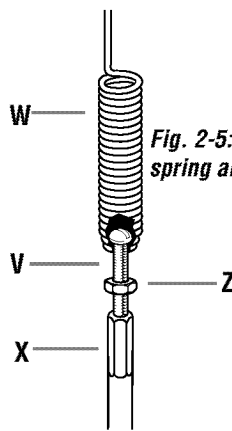
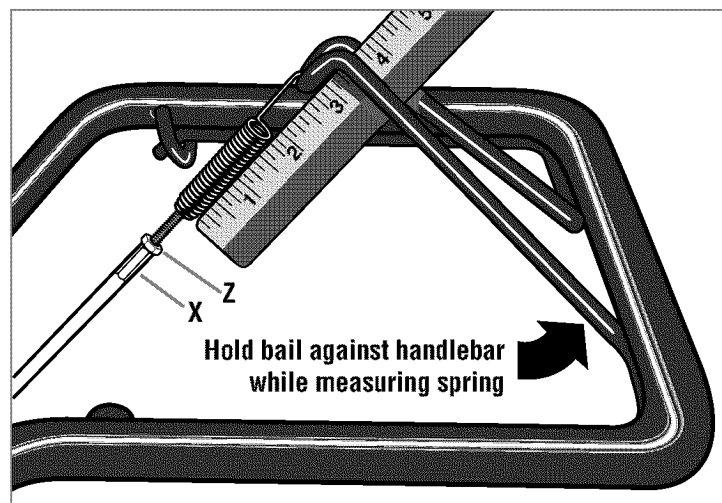

Fig. 2-5: Assemble spring and adjuster.
Fig. 2-7: Measure cable spring.
2. Thread the #10-24 hex nut (Z) halfway onto the screw (V) which runs through the spring (W, Fig. 2-5).
3. Thread screw (V) into cable adjuster (X).
4. Lift and hold the Forward Clutch bail against the handlebar. See Fig. 2-7.
5. Measure the length of the cable spring between the ends of the coils (Fig. 2-7). The length should be approximately 1-7/8". If the length is correct, turn the #10-24 hex nut (Z) down tightly against the cable adjuster (X) while holding the adjuster in place. See Figure 2-7. If the length is incorrect, you must make an adjustment to the cable tension as described in "Checking and Adjusting Forward Drive Belt Tension" in Section 5. When the spring length is correct, tighten the hex nut (Z) against the cable adjuster (X).